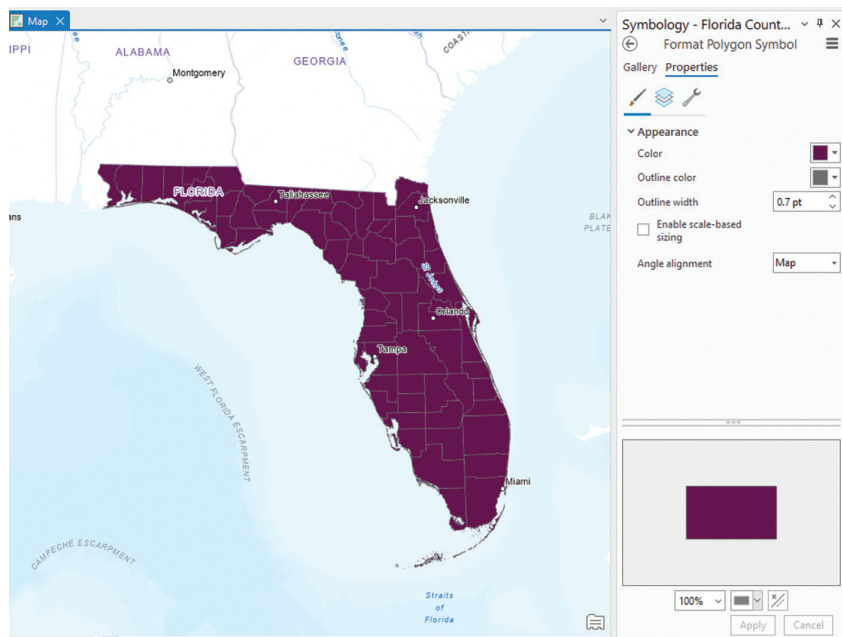

Figure 6. Applying the custom color to your polygon fill.
3. Pressing the OK button will apply the color to your polygon fill as in Figure 6.